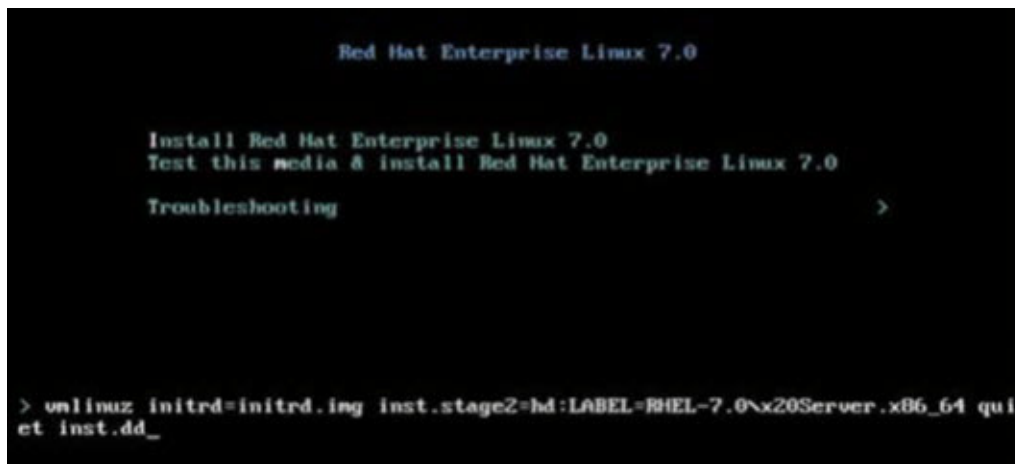

Figure 13-26. Adding the “dd” Installation Option
3. Add the option `dd` to the boot command line, as shown in Figure 13-26.